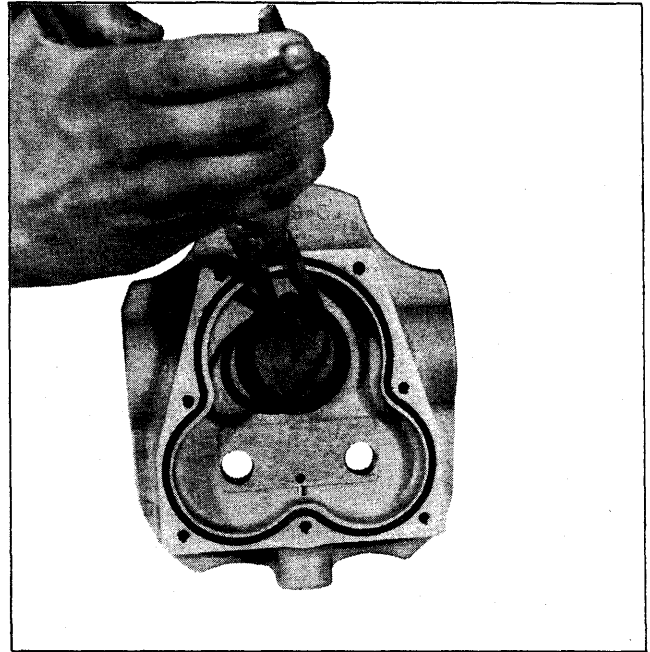

FIGURE 10
12.) Remove the snap ring which retains the shaft and thrust bearing. (Fig. 10.)